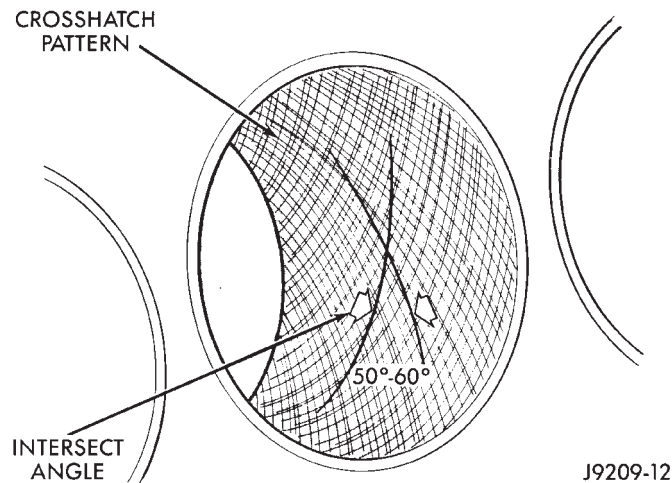

Fig. 10 Cylinder Bore Crosshatch Pattern
(3) Honing should be done by moving the hone up and down fast enough to get a crosshatch pattern. The hone marks should INTERSECT at 50° to 60° for proper seating of rings (Fig. 10).